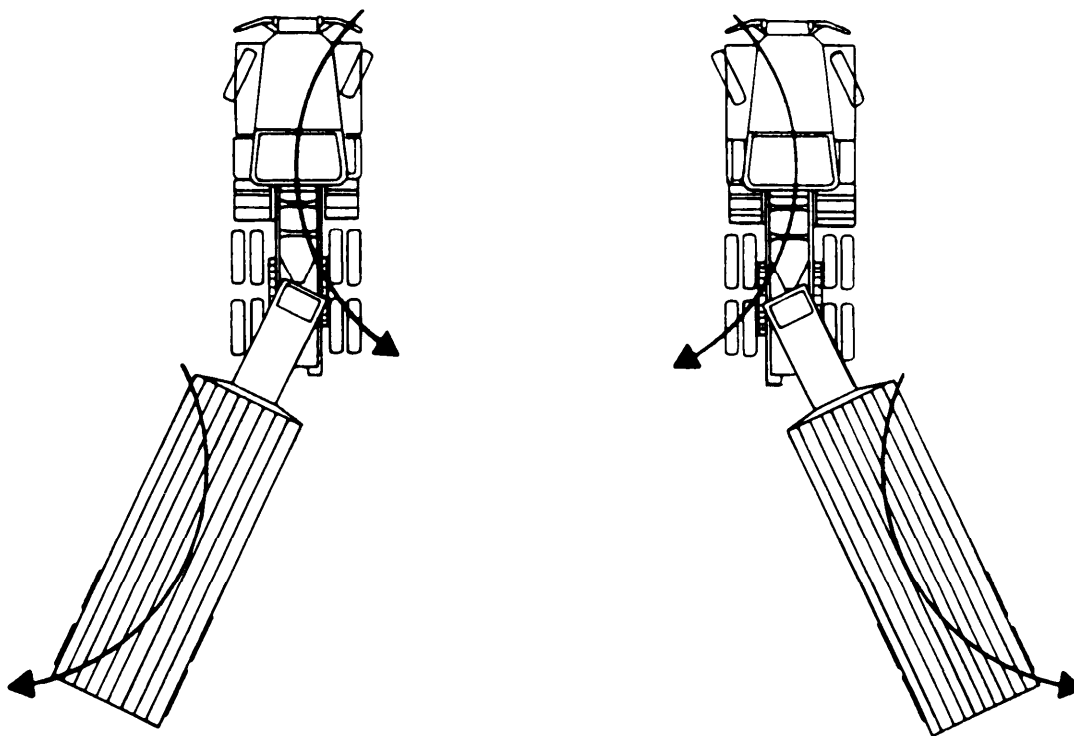

Figure 2-21. Backing
- (5) Backing. When backing, use an assistant as a ground guide to direct you. Adjust rear view mirrors before backing. When backing, the rear of the semitrailer will move in the opposite direction from the front towing vehicle wheels. If the wheels are turned to the right, the semitrailer will go left. If the wheels are turned to the left, the semitrailer will go to the right (fig. 2-21).